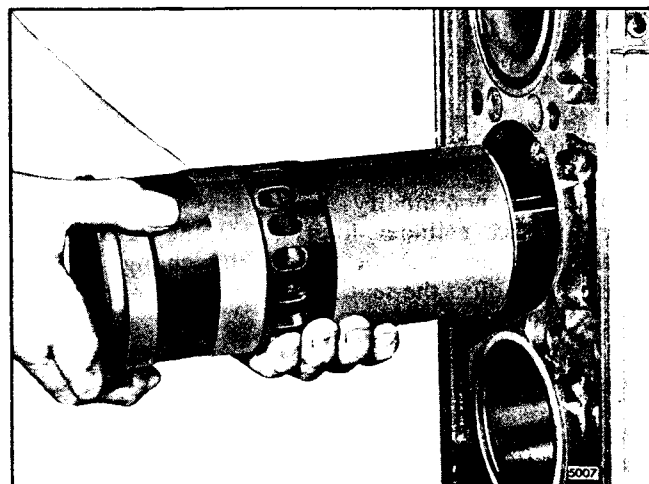

Fig. 7 - Installing Piston, Connecting Rod and Liner Assembly in Cylinder Block
6. Hold the piston, rod and liner in line with the block bore (Fig. 7) so the identification number on the rod is facing the outer edge of the block (V-type engine) or the engine serial number side (In-line engine). Also, align the matchmarks on the liner and block. Now slide the entire assembly into the block bore and seal rings, being careful not to damage the seal rings.